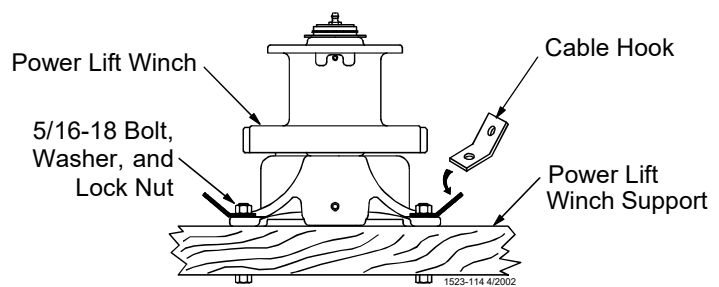

Figure 6. Assembling the Power Winch to the Rafters
2. Install a Cable Hook, supplied in Hardware Package, between the mounting bolt and Power Winch frame, as shown in **Figure 6**.